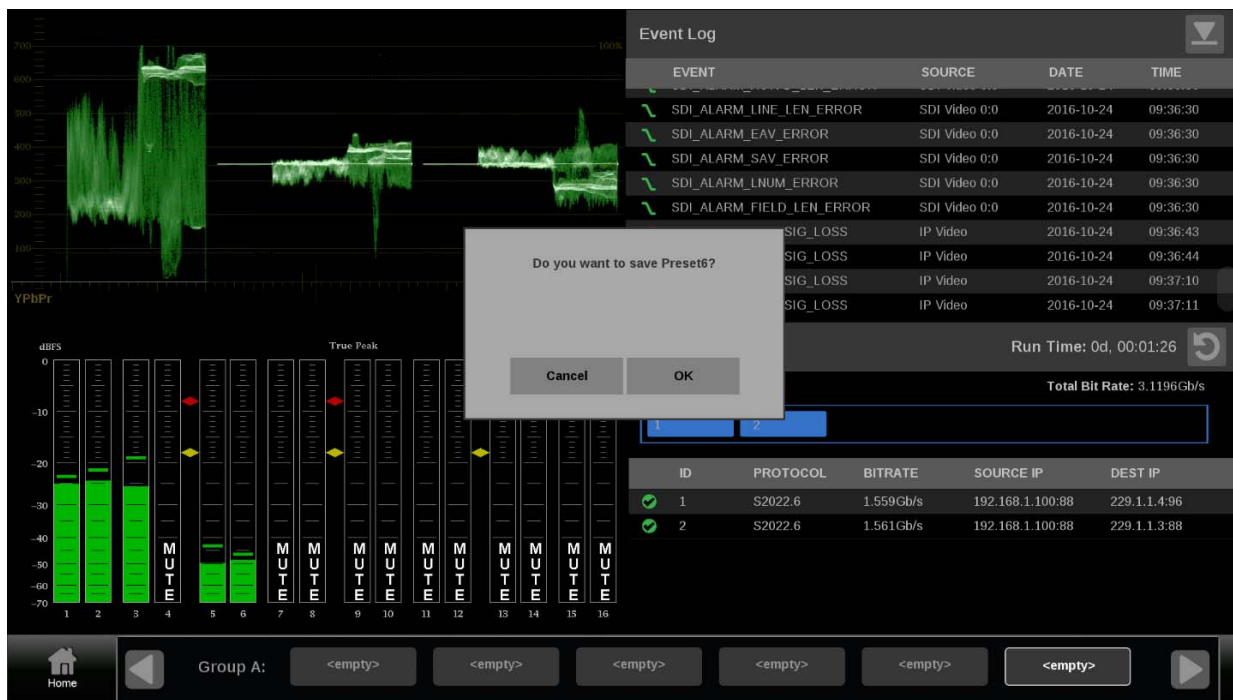

Figure 50: Assign a preset
- c. When you have located the desired preset group, touch and hold the preset button you want to assign the current instrument configuration. The selected preset button is highlighted and a confirmation box appears. In the example, the Group B preset B6 is being saved. (See Figure 50.)